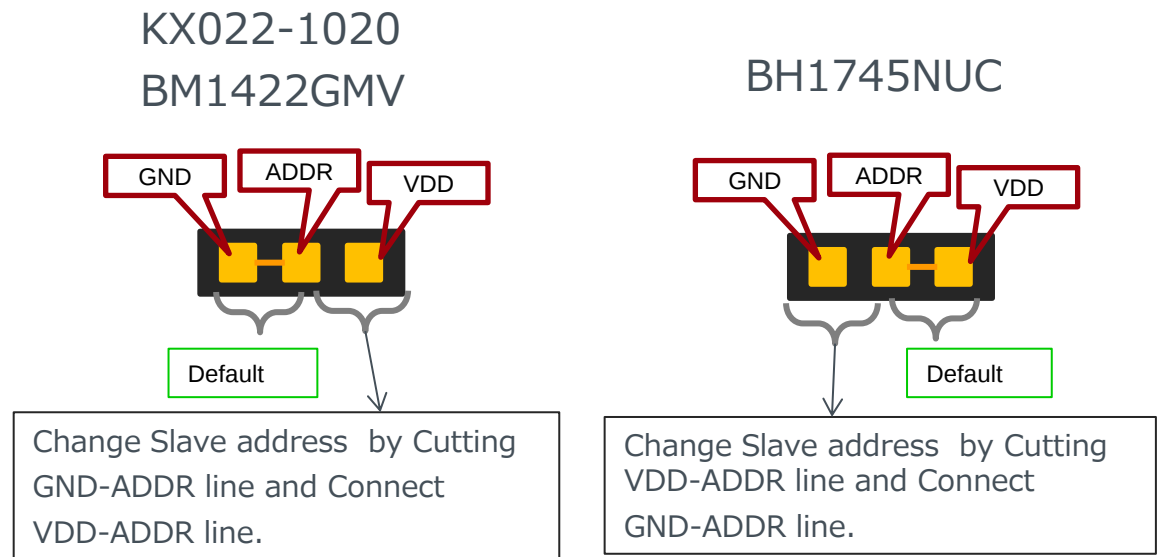

Fig.2
- The board has pattern to change Slave address.(Fig.2)